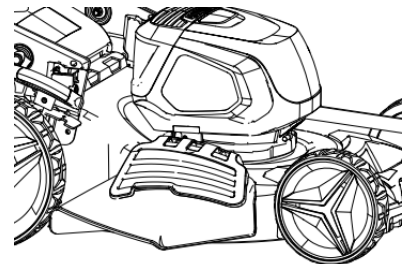

Fig.9C
5. Lower the flap to make the flap lock-on the side discharge chute. (Fig.9C)